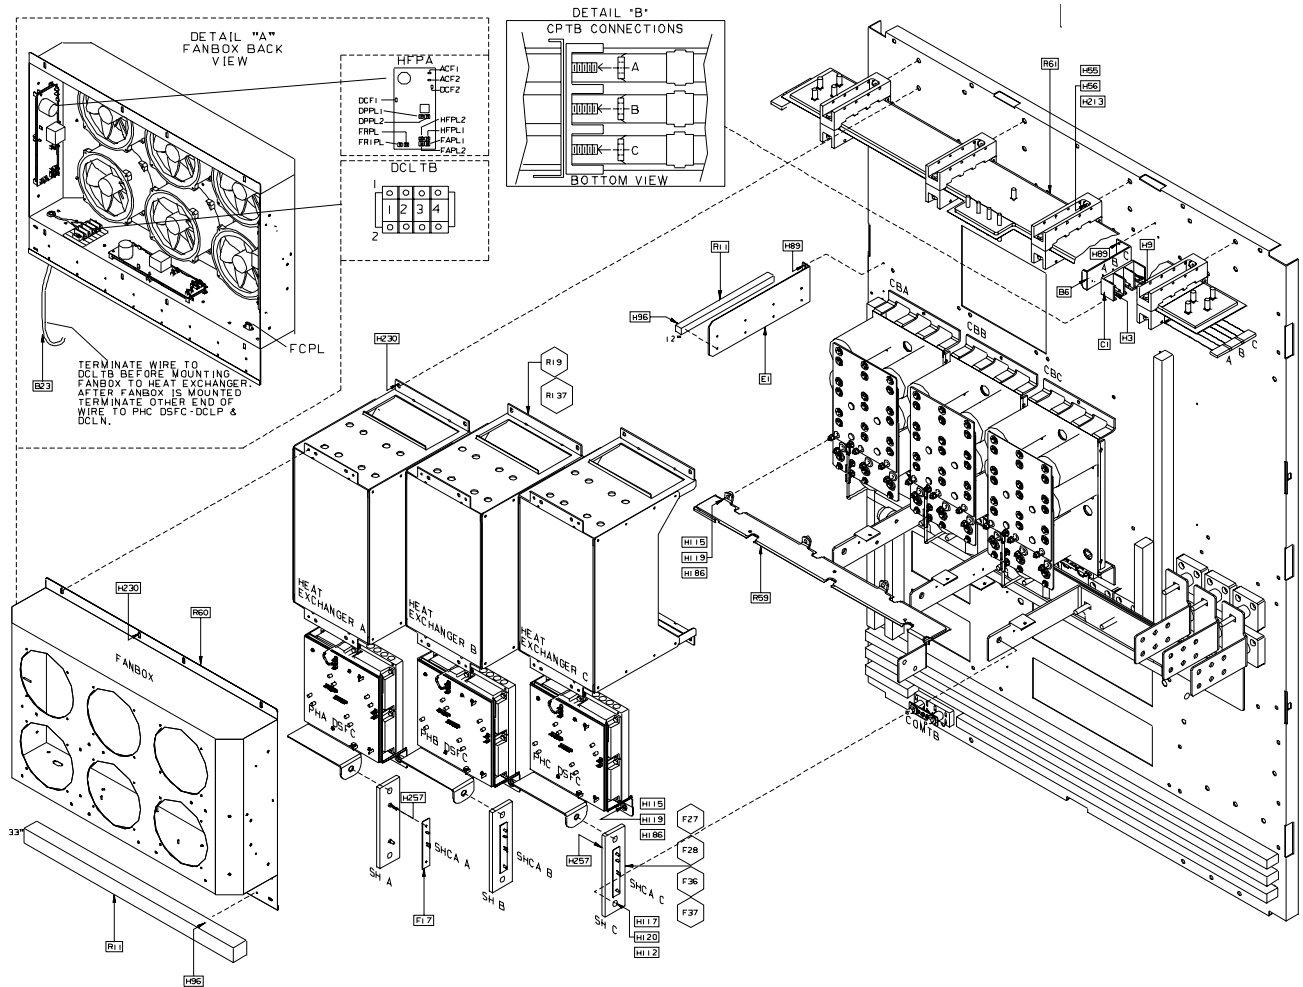

Figure 7-6. 1000 Frame Drive Panel Assembly
6. Remove the bolt from the connection at the top of the shunt. Then loosen the bolt at the bottom of the shunt so that it can be rotated out of the way (refer to Figure 7-6).